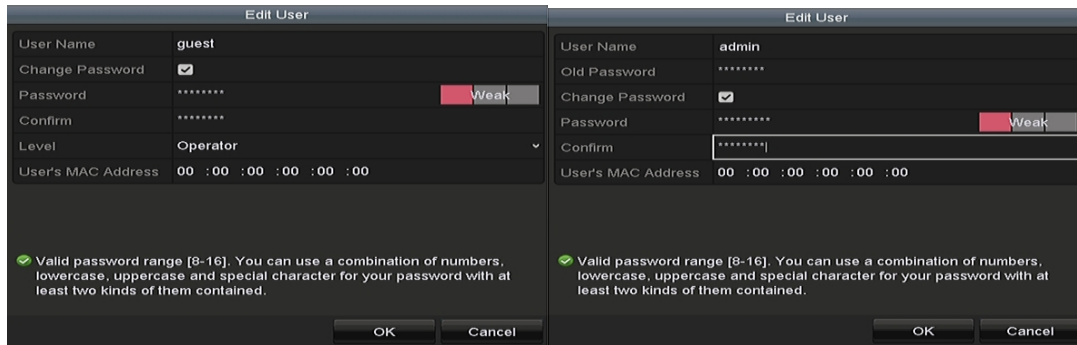

Figure 15-13 Edit User Interface
Step 3 Click the  icon to enter the **Edit User** interface, as shown in Figure 15-13.